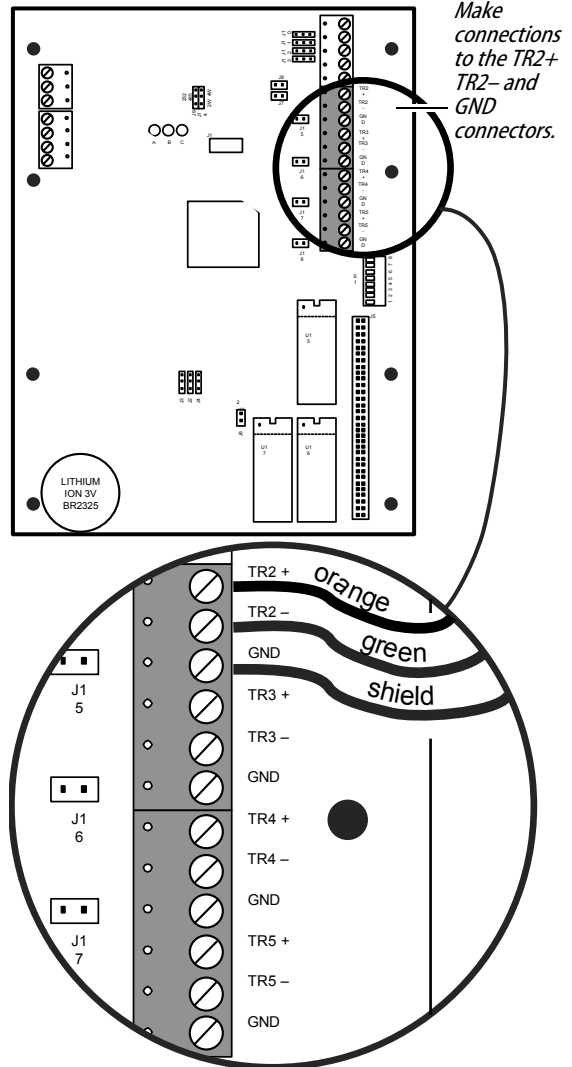

Figure 23 Making connections to the access control panel, BAS-1000 shown.
- 2 Connect the orange wire or its extension to the RS485 connection TR2+ or higher. See Figure 23.